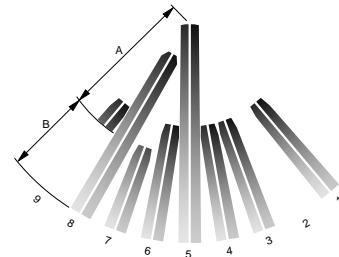

Figure 5
- Mask the appropriate mirror curtains with the adhesive labels provided. See the example shown in Figure 5. **Do not** use sharp objects to remove unwanted labels. If necessary, carefully peel the label off.